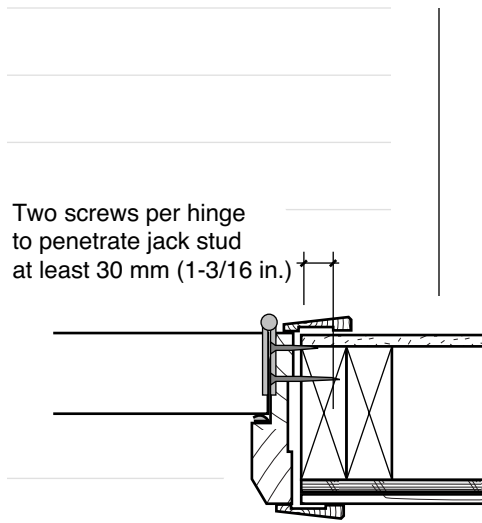

FIGURE 27
- ◆ At least two screws per hinge should pass through both the frame and the shim and penetrate at least 30 mm (1-3/16 in.) into solid wood (see Figure 27).